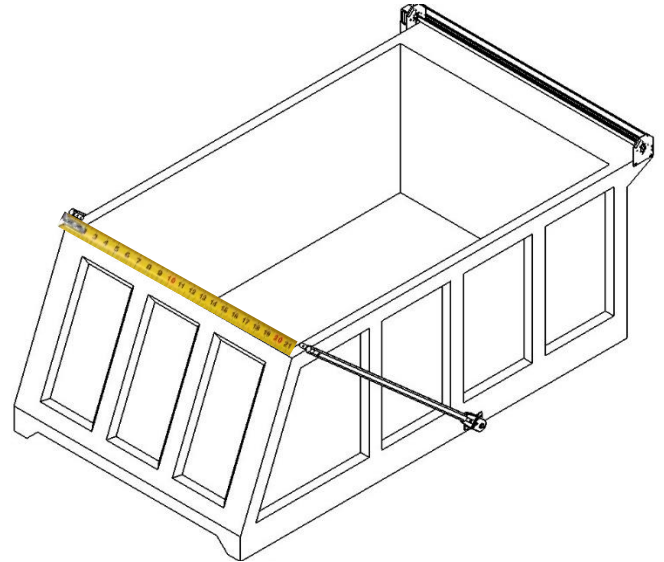

Figure 4.4
In the free ends of the side arms insert the 90-degree bulletproof corners (1). Measure the distance between these corners and verify that the length of the cross-tube is the same. If the cross-tube is too long cut it down to size. (Figure 4.4)